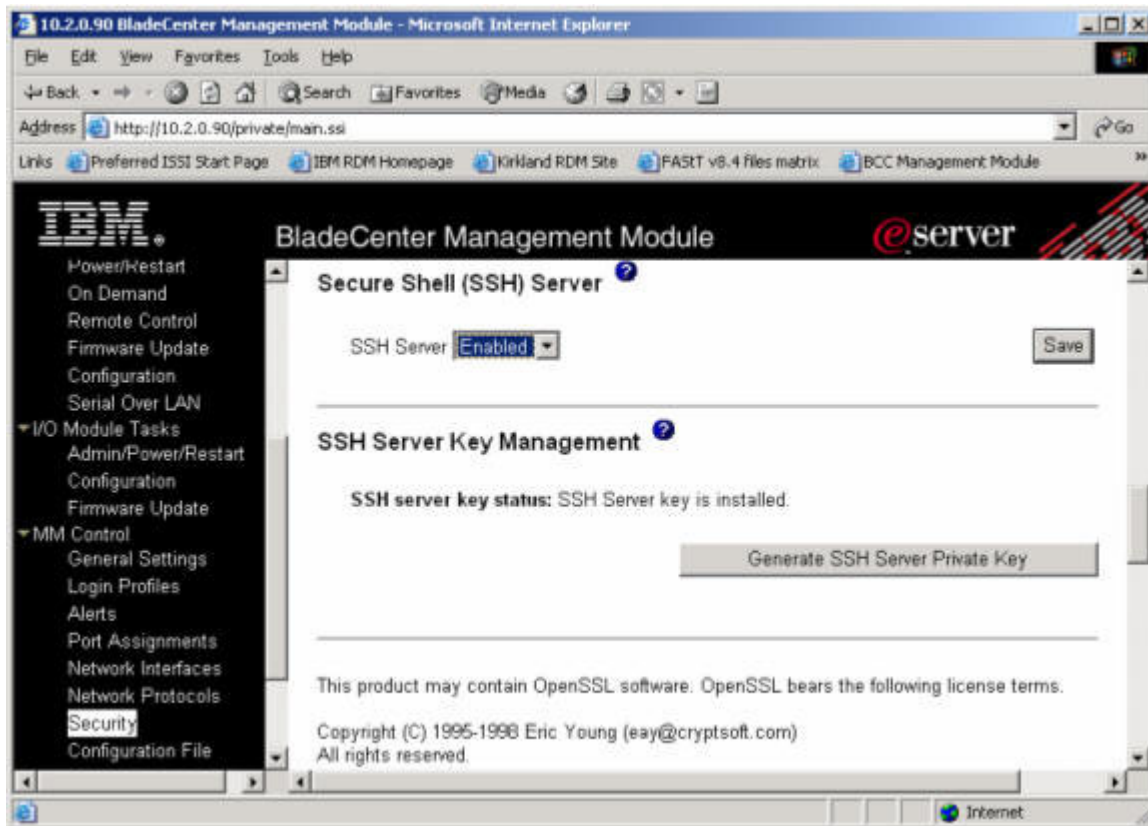

Figure 15. Enable SSH panel
**Note:** To conduct a text console redirection, the SMASH Proxy uses SSH to access the MM. However, SSH is disabled by default on the MM. Thus, for text console redirection to take place, you must enable it in the Web interface and restart the MM. See Figure 15 on page 106 for an image of this MM Web interface panel.